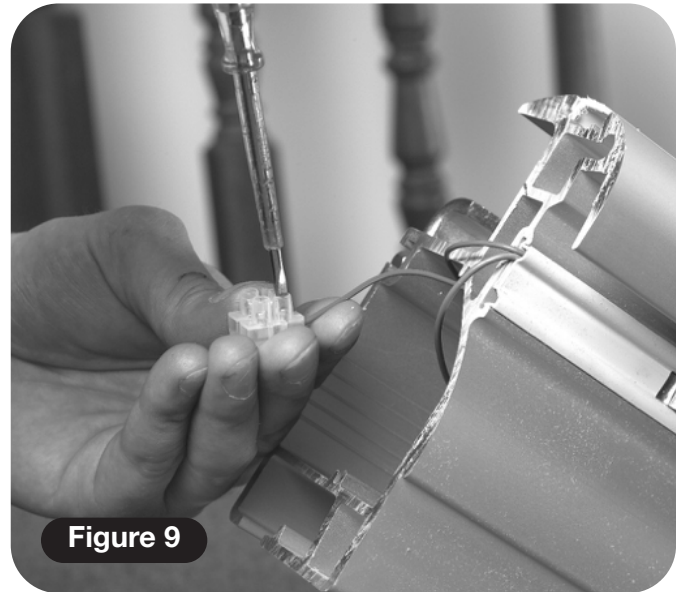

Figure 9
- 7 Using the two way connecting blocks, wire up the charge contact flying leads to the plain grey cable from the twin core grey cable using the two way connector blocks supplied (**Figures 9 and 10**).